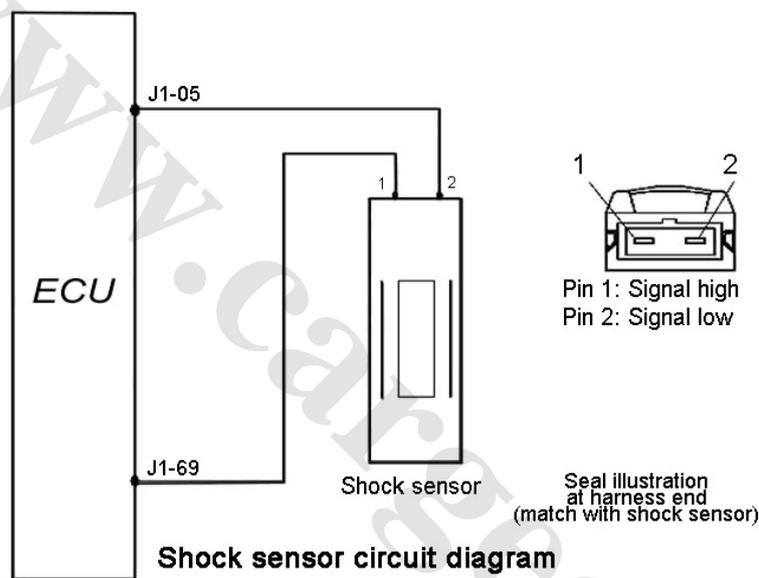

Fig. 1-7
(3) Connection of wiring diagram (Fig. 1-7)